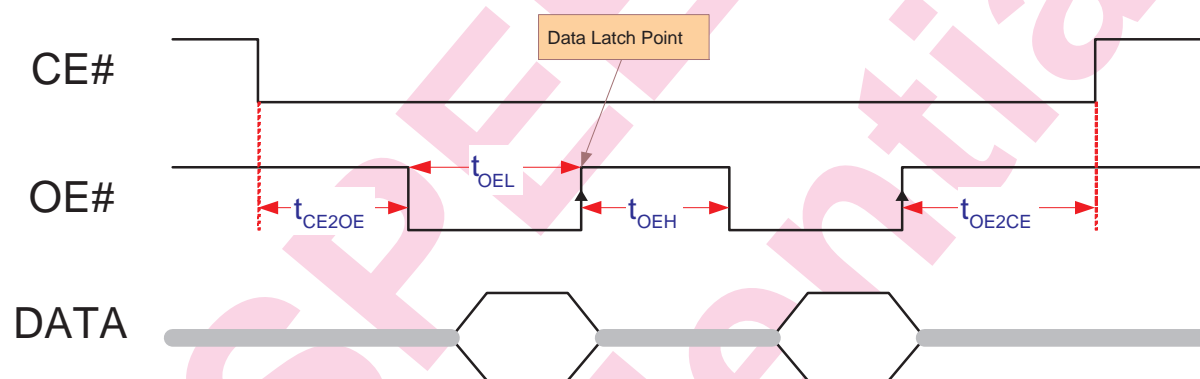

Figure 57: NOR Flash Read Timing
- Figure 57: NOR type flash normal read timing